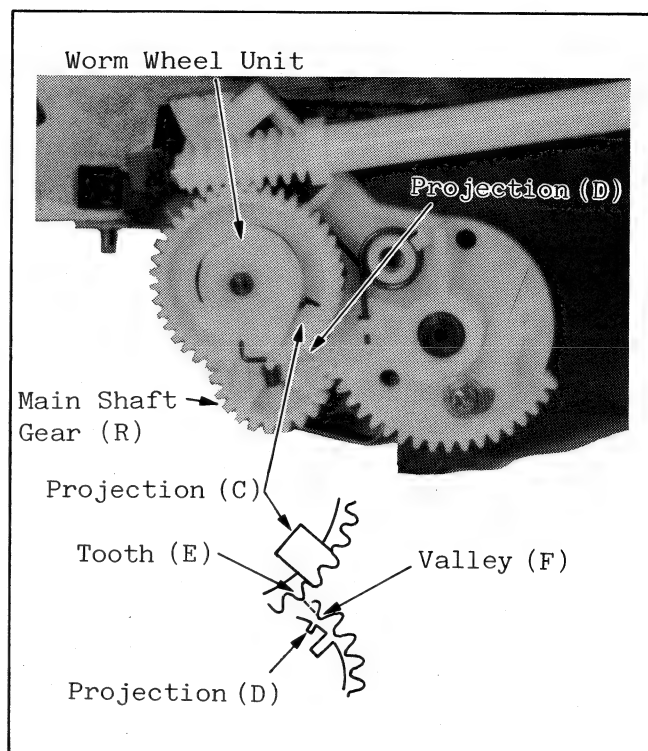

Fig. M36-4 Adjustment of Cassette Up Gears-(4)
3. Install the worm wheel unit so that the tooth (E) beside the projection (C) on the worm wheel unit and the valley (F) on the Main Shaft Gear opposite the shorter projection (D) on the Main shaft Gear should be aligned as shown in Fig. M36-4.